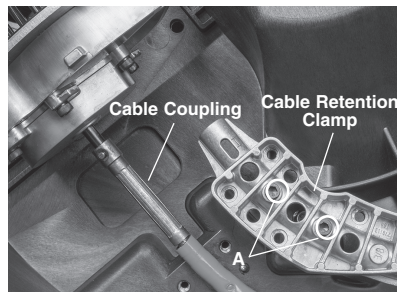
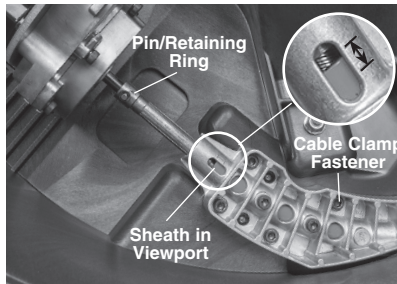

Figure 2 – Cable Installation
Figure 3 – Sheath Position In Viewport
3. Loosen sheath clamp screws two turns, but do not remove) (Figure 2).
4. Remove the cable retention clamp fasteners and retention clamp (Figure 2).
- Loosely install the 4 cable retention clamp fasteners (see Figure 2). Make sure that the cable sheath is within 1/4" (6.4 mm) of the cable coupling. When looking through the viewport, the end of the sheath must be between the lines (see Figure 3).